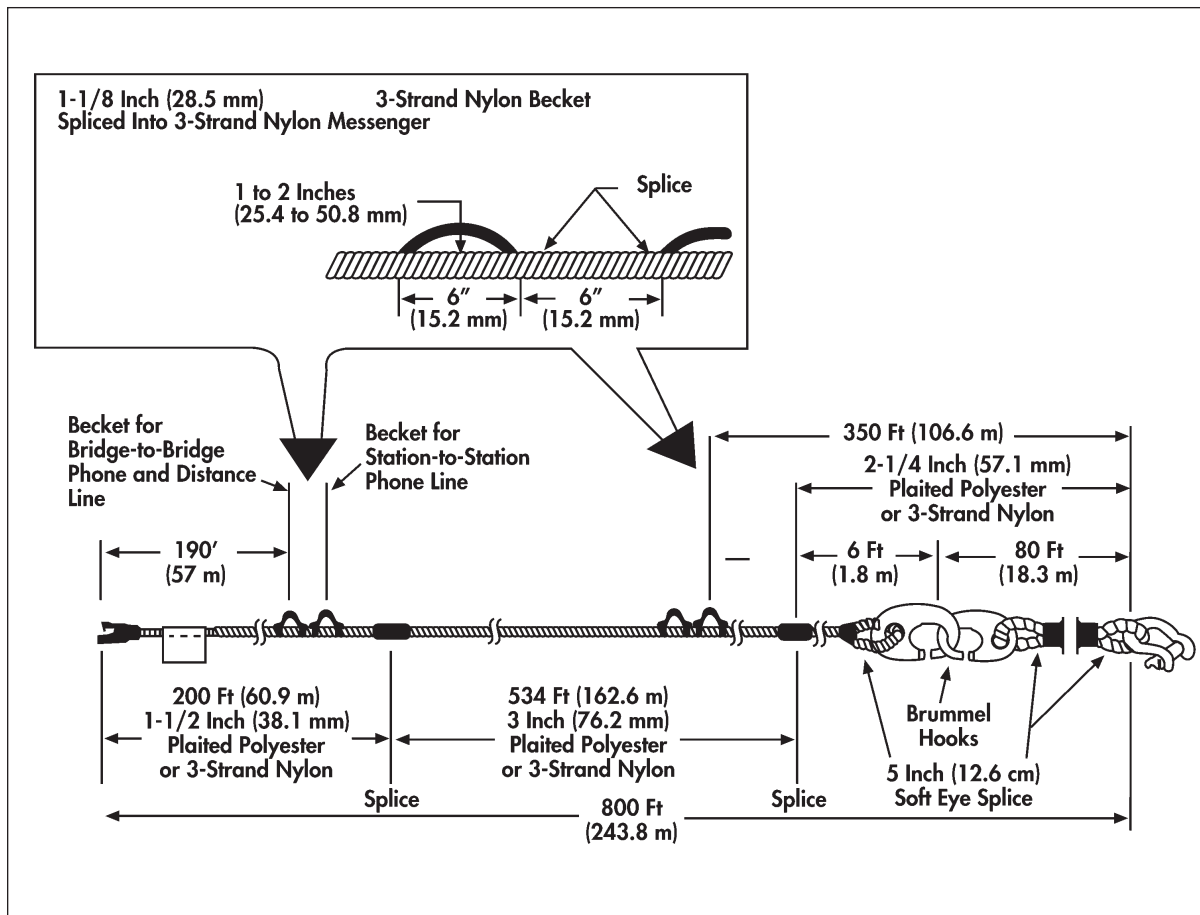

Figure 9.23-10 - Continuous Messenger
b. **Description.** The continuous messenger is made up as shown in Figures 9.23-10 and 9.23-11. Essentially, it is 800 ft (243.8 m) of continuous graduated 3-strand nylon with tapered splices as follows:
- (1) 200 ft (60.9m) of 1 1/2" (12mm dia) 3-strand nylon with a soft eye at the outboard end. The inboard end is spliced into (b);
- (2) 534 ft (162.6 m) of 3 " (24mm dia) 3-strand nylon. A brummel/englefield hook is spliced into the inboard end of this section; and
- (3) 60 ft (18.3m) of 2 1/4 " (18mm dia) 3-strand nylon. The outboard end of this section has a brummel/englefield hook spliced into it. A soft eye is spliced to the inboard end to allow attachment to the probe trolley assembly.